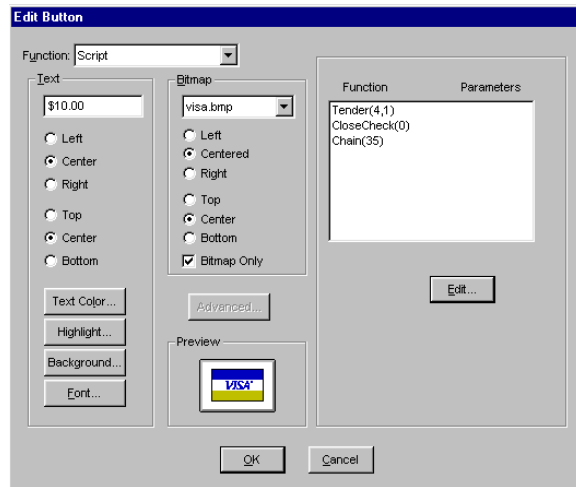

Figure 5-107 Complete Script Button Function
7. Click **OK** to return to complete the script and return to the Edit Button dialog box with the completed script, as shown in Figure 5-107: